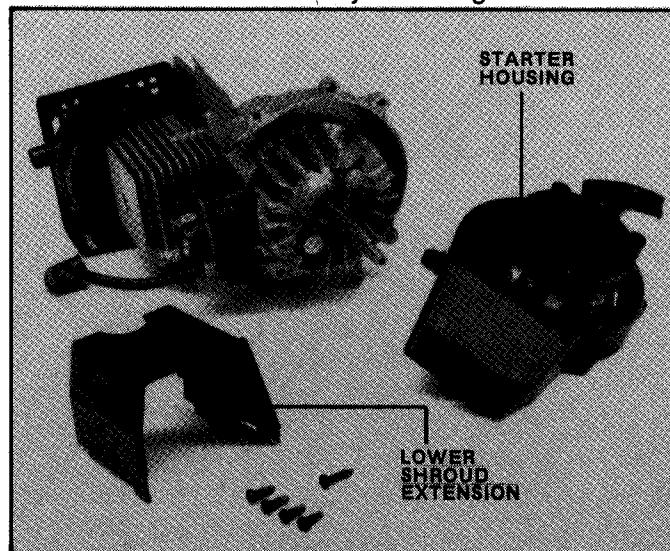

FIGURE 7.1
7.1 With the clutch assembly removed from the front of the engine (Ref. section 6) remove the four screws from the upper perimeter of the starter housing and the one screw from the lower center retaining the lower shroud extension. Set the lower shroud aside until final and re-assembly. See Figure 7.1.